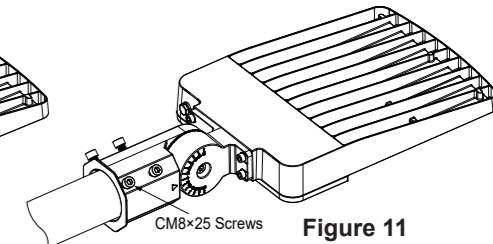

Figure 11
4. Place the Slipfitter over maximum 2-3/8" outer diameter tenon and secure with four CM8x25 screws, Figure 11.